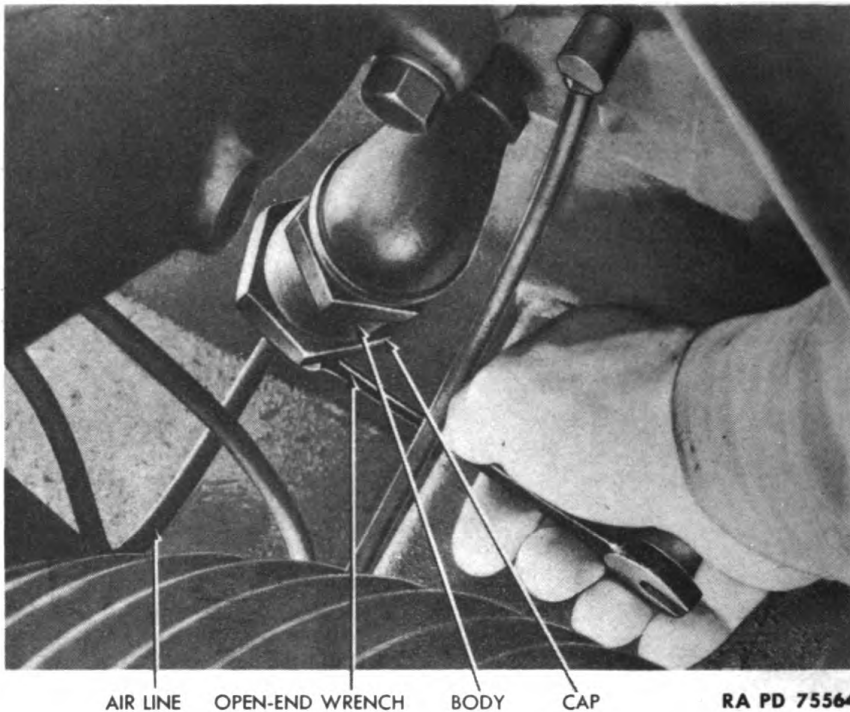

Figure 30 — Removing Compressor Intercooler Relief Valve
(11) **DISASSEMBLY OF INTERCOOLER RELIEF VALVE** (fig. 30).
(12) **ASSEMBLY OF INTERCOOLER RELIEF VALVE** (fig. 30).